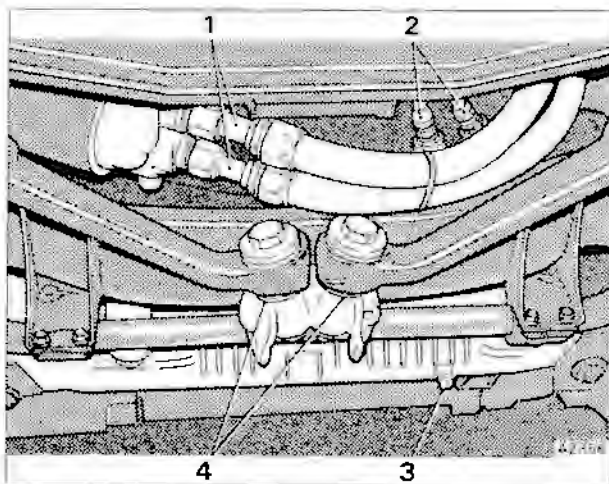

Fig. H3-5 Engine and transmission oil cooler pipes
23. Remove the two flexible engine oil filter to engine oil cooler pipes (see fig. H3-5). Allow any engine oil to drain into a container. On Bentley Turbo R cars remove the cooler pipes clamp situated on the right-hand longeron.